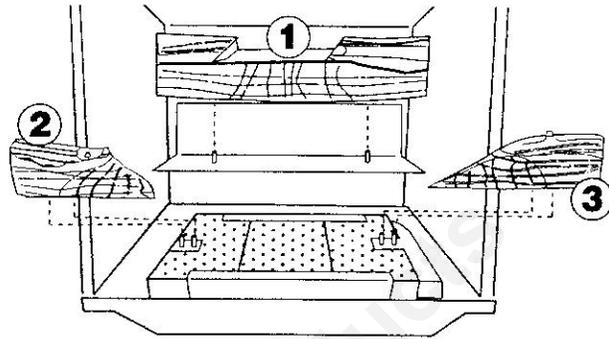

Figure 3-33. Install the back, left, and right logs.
2. Install the Rear Log (1) by engaging it with the pins on the sheet metal shelf at the back of the firebox. Fig. 3-33.
3. Install the Left and Right Middle logs (2 & 3) by engaging holes on their bottoms with pins on the burner brackets. Fig. 3-33.